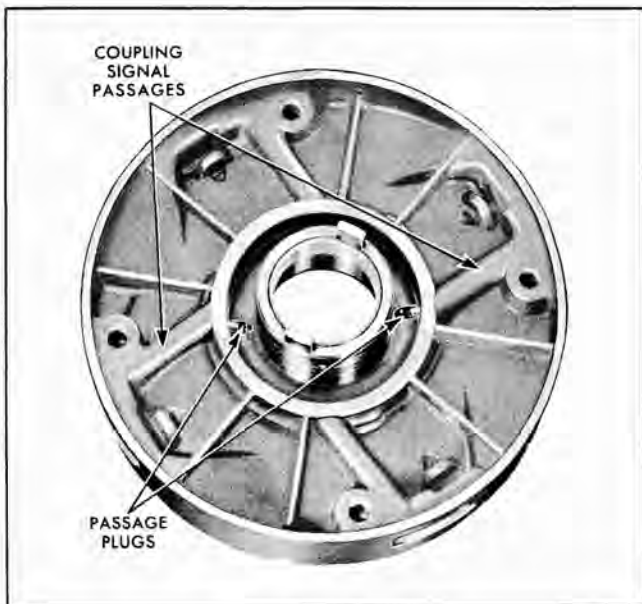

Fig. 120 Plugs in Exhaust Valve Signal Oil Passages in Coupling Cover
5. Inspect front unit torus coupling cover for burrs or scratches on outer diameter caused by removal of cover. Burrs or scratches can usually be cleaned up with crocus cloth. Check for excessive wear of bushing in cover and condition of hook type ring and ring land. Inspect oil seal grooves of cover hub to ensure they are not damaged. Make sure signal oil passages in coupling cover are open and that plugs are in place (Fig. 120).